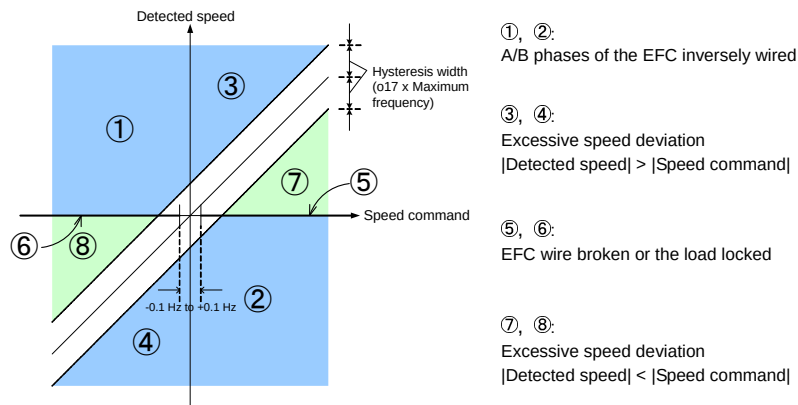

Figure 8.1 Excessive Speed Deviation Detection and Speed Command
2: Stop running (Alarm mode 2)	Any status of ① to ⑧ in Figure 8.1 is kept exceeding the timer setting specified by o18.
Tip When *ere* alarm occurs, the current error factor (any of ① to ⑧) can be displayed on the keypad by using Menu #6 "Alarm Information," Item 6_21 "Error sub code." The relationship between the error code and error factors in Figure 8.1 are: 1 for ① or ②, 3 for ③ or ④, 5 for ⑤ or ⑥, and 7 for ⑦ or ⑧. For details, refer to the inverter's instruction manual. (Refer to the description of function code E52.)